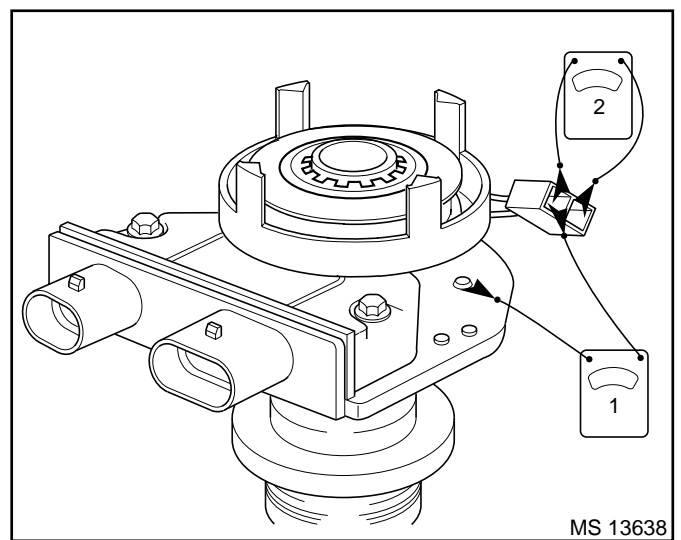

Figure 4-9 - Testing the Pick-up Coil
- Connect an ohmmeter to either pick-up coil lead and the housing as shown in Figure 4-9, Test 1. The reading should be infinite. If not, replace the pick-up coil.
- Connect an ohmmeter to both pick-up coil leads as shown in Figure 4-9, Test 2. Flex the leads by hand at the coil and the connector to locate any intermittent opens. The ohmmeter should read a constant unchanging value in the 500 to 1500 ohm range. If not, replace the pick-up coil.